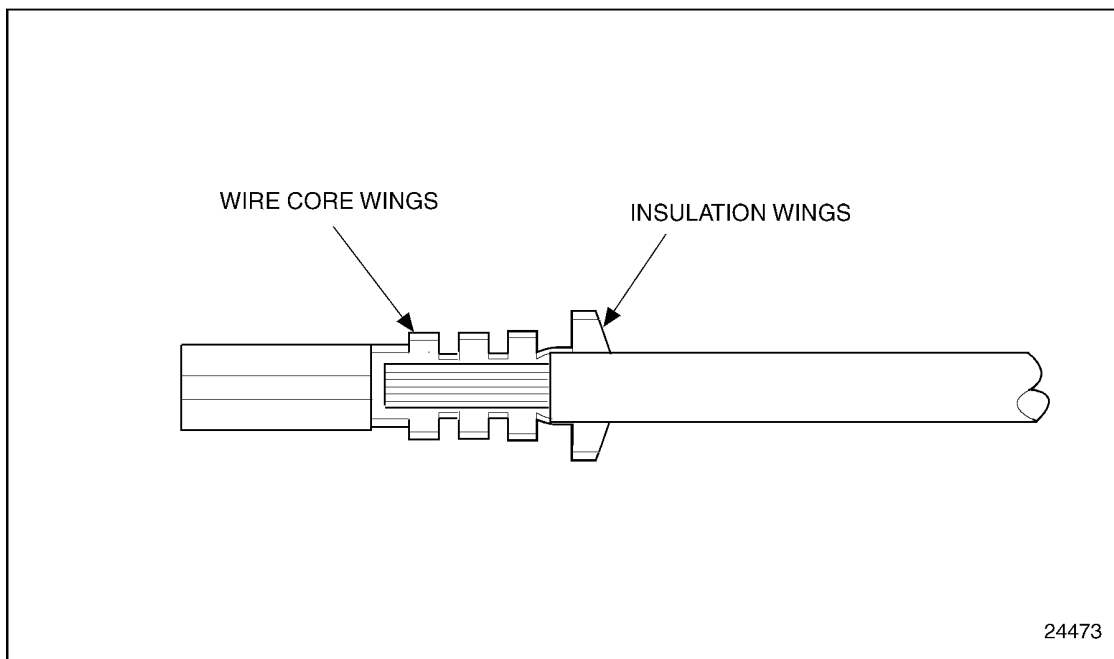

Figure 8-22 **Cable to Terminal Alignment**
6. Insert the cable into the terminal until the stripped portion is positioned in the wire core wings, and the insulation portion ends just forward of the insulation wings. See Figure 8-22.